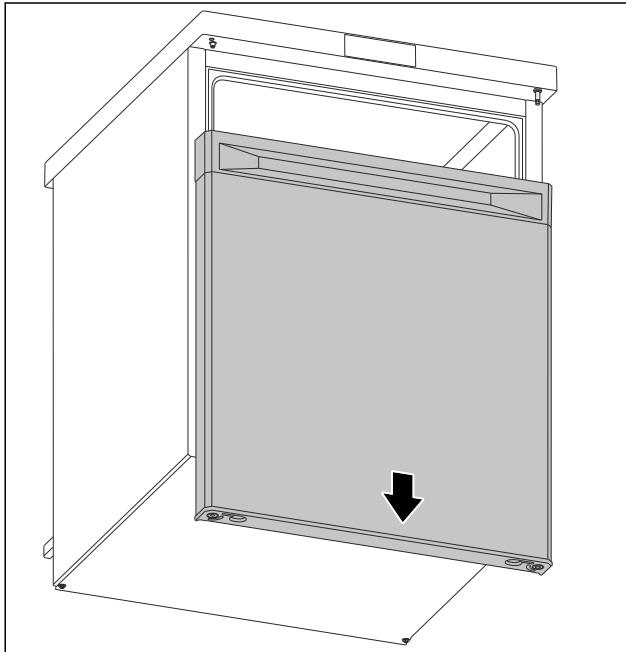

Fig. 6
- ▶ Remove the door downwards. (see Fig. 6)